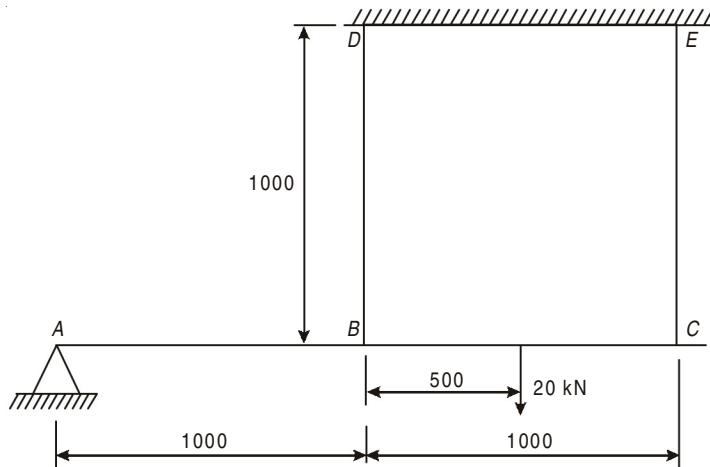

Fig. 1.29
- 1.56. Figure 1.29 shows a rigid bar ABC hinged at A and suspended at two points B and C by two bars BD and CE , made of aluminium and steel respectively. The bar carries a load of 20 kN midway between B and C . The cross-sectional area of aluminium bar BD is 3 mm^2 and that of steel bar CE is 2 mm^2 . Determine the loads taken by the two bars BD and CE . $E_d = 70 \text{ KN/mm}^2$ and $E_s = 200 \text{ kN/mm}^2$. [Ans. $P_a = 3.4807 \text{ kN}$; $P_s = 13.26 \text{ kN}$